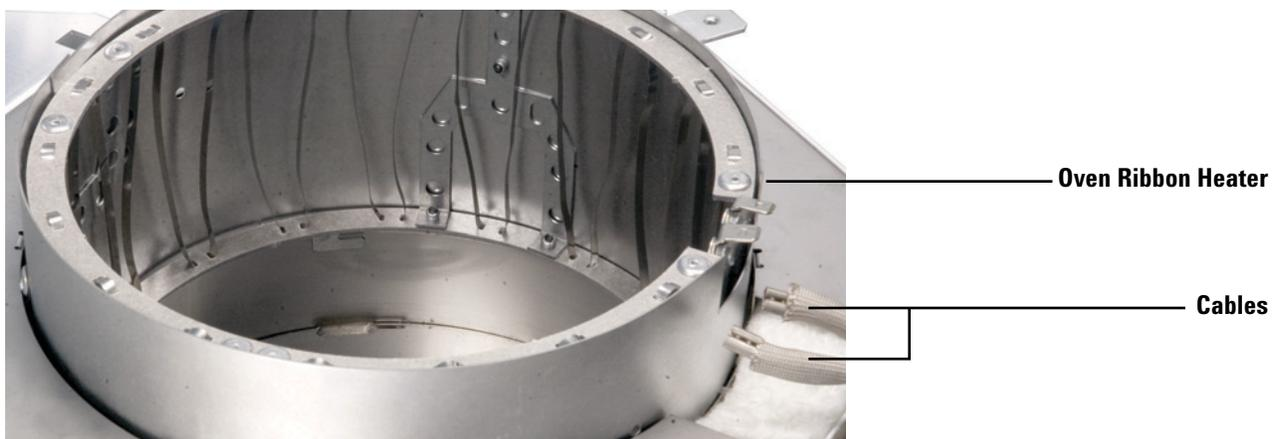

Figure 21 Removing the oven ribbon heater cables
- a Carefully remove the two cables attached to the oven ribbon heater using needle nose pliers (Figure 21).